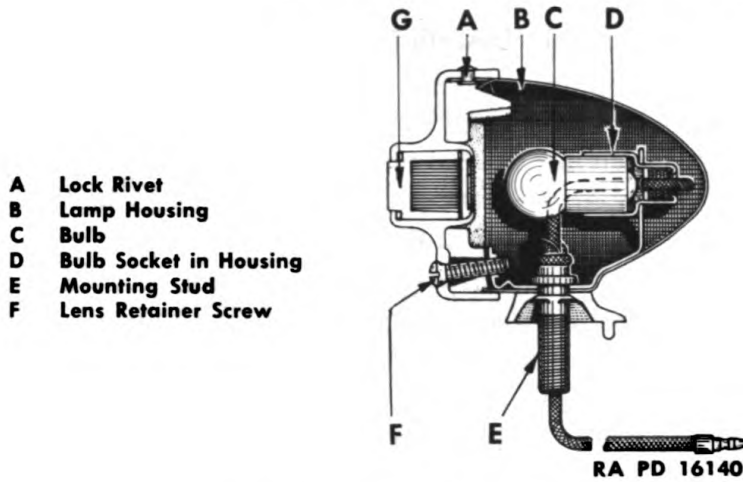

Figure 123—Blackout Marker Lamp
a. Blackout Marker Lamps Removal—(Fig. 123).
(1) Open bow compartment hatch cover. Loosen wing nuts on hold-down bolts, swing bolts to disengage cover clamps and raise hatch cover to open. Disconnect wiring at connector and remove nut from mounting stud under each lamp from inside bow compartment. Then lift each lamp to clear mounting stud at deck plate and remove.
(1) Put lamp assembly in position with wiring and mounting stud through hole in deck plate and position locating dowel on lamp bracket in dowel hole in deck plate. Screw locking nut on mounting stud, tighten securely, and plug wire into connector at each lamp.
c. Blackout Marker Lamp Bulb And Lens Removal—(Fig. 123).
(1) Remove retaining screw and twist lens and cover to loosen lock rivet at top. Then remove lens and cover assembly from lamp housing.